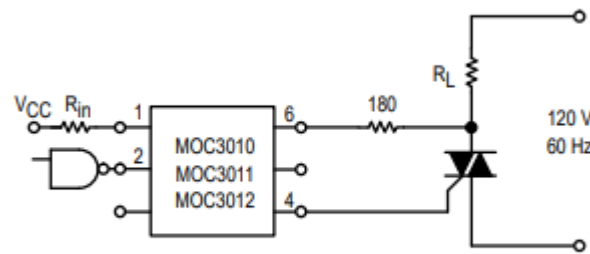

Figure 7. Resistive Load
2. This is static dv/dt. See Figure 7 for test circuit. Commutating dv/dt is a function of the load-driving thyristor(s) only.